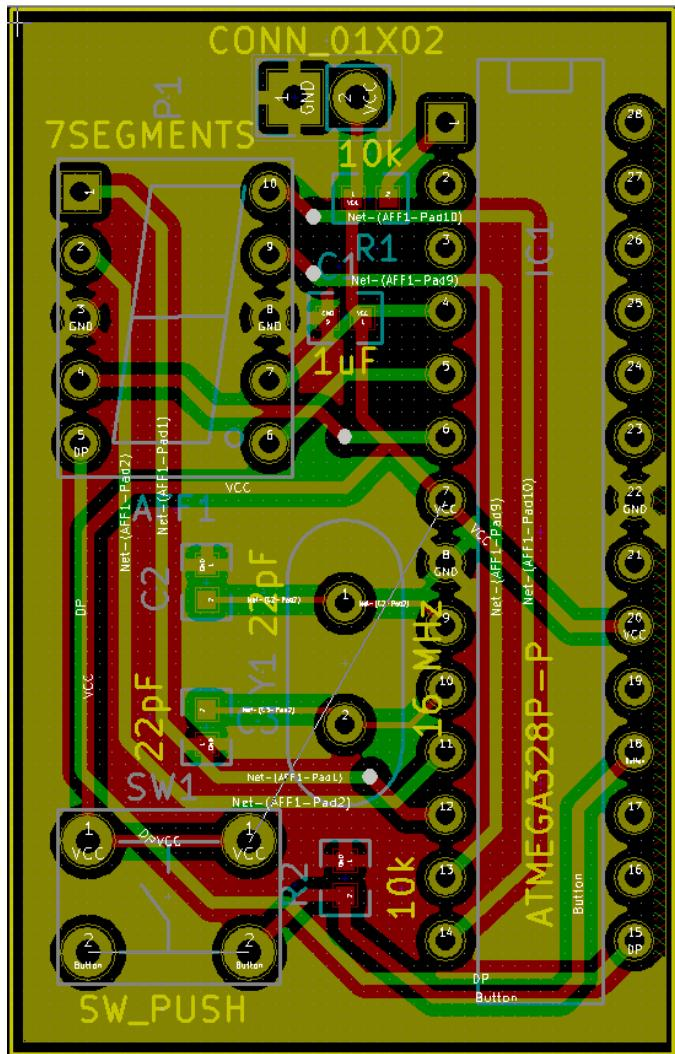

Figure 28: Final layout of the Arduino dice PCB.
14. Fig. 28 shows a layout that I produced in the end.